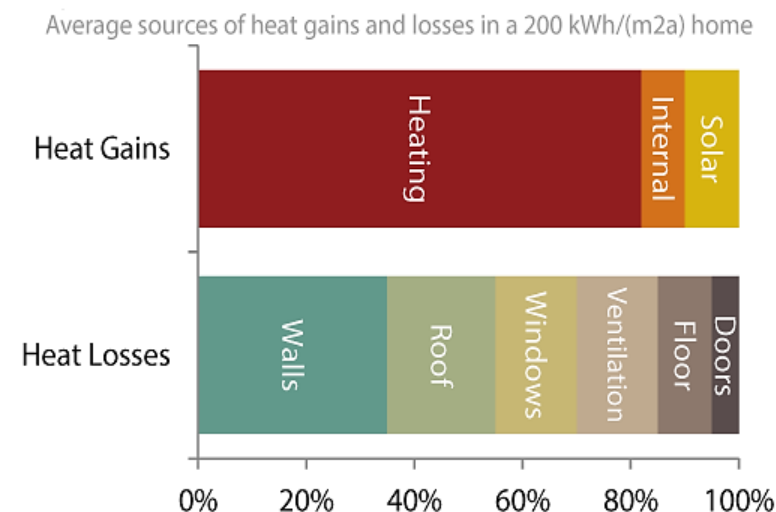

Figure 2 – How homes gain and lose heat. Source.
- How well insulated a home is. In this context it is helpful to know how a typical home gains and loses heat, see **Figure 2**. The key point is that most heat is lost through walls.
Installing missing insulation is priority one. In terms of stopping heat loss, it makes sense to insulate walls first, then the roof, windows and floors (see **Figure 2**). If you add in economic considerations, the picture is slightly less clear, though if relevant and missing or inadequate, likely **economic no-brainers** include the installation of **loft, cavity wall, and hot water tank and pipe insulation**. Payback time estimates for all insulation technologies are summarised at the end of this section.